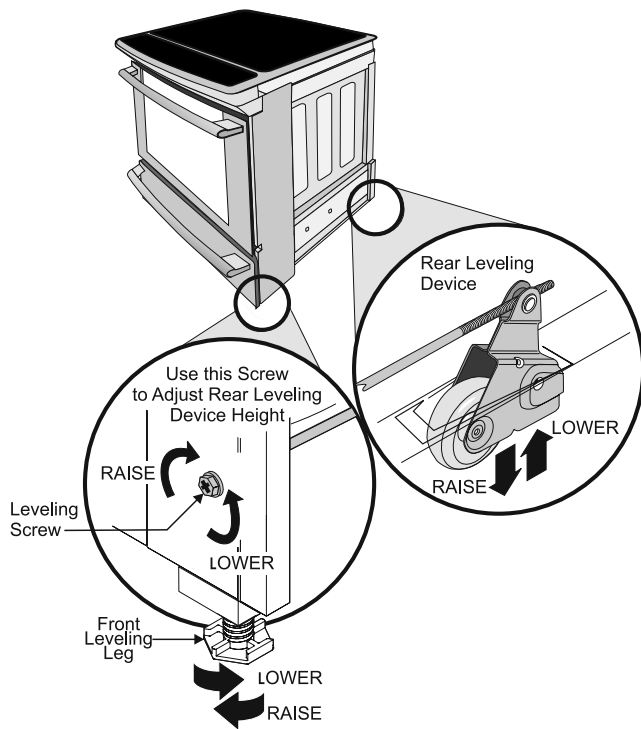
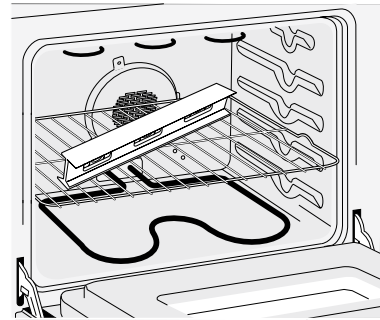

Figure 16
Figure 17
2. Adjust the appliance wheels and legs as follows until the underside of the cooktop surface is sitting level on the countertop (Figure 16).
3. Check if the range is level by installing an oven rack in the center of the oven and placing a level on the rack (Figure 17).
2. Place a level on the rack (see Figure 17). Take 2 readings with the level placed diagonally in one direction and then the other. Level the range, if necessary, by adjusting the 4 leg levelers with a wrench (see Figure 16).